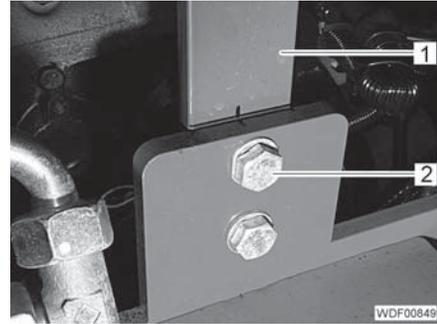

Fig. 5 Exhaust bracket attachment
- Mark the location of the exhaust bracket (Fig. 5,1) on both sides on the rear carriage.
- Unscrew 2 screws (Fig. 5,2) on both sides.